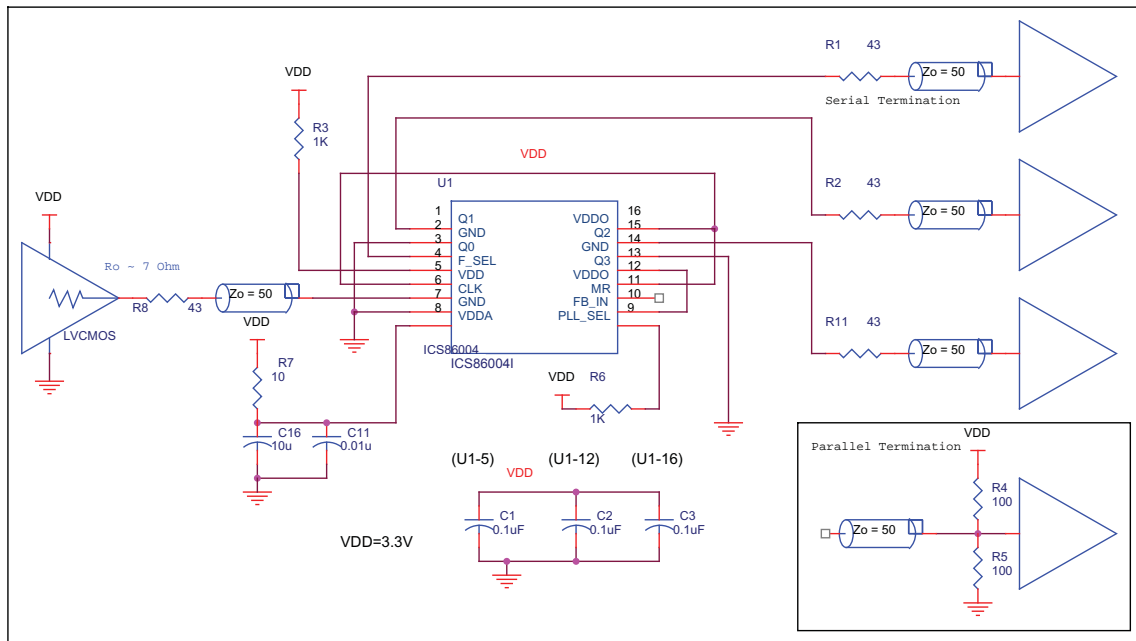

FIGURE 2. 86004I SCHEMATIC EXAMPLE
*Figure 2* shows a schematic example of using an 86004I. It is recommended to have one decouple capacitor per power pin. Each decoupling capacitor should be located as close as possible to the